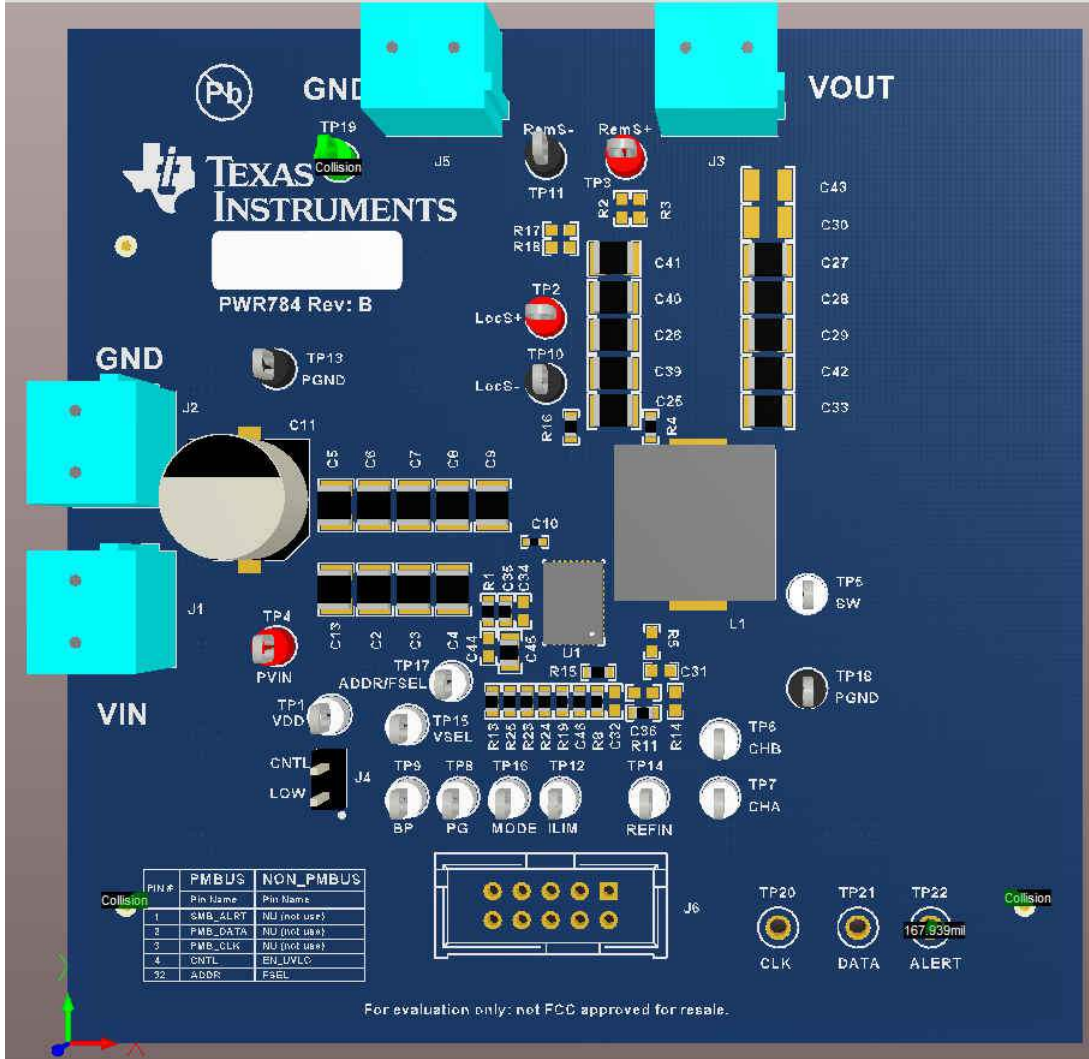

Figure 6-1. PWR-784EVM Overview
**Multimeters:** It is recommended to use two separate multimeters Figure 6-1. One meter is used to measure  $V_{IN}$  and one to measure  $V_{OUT}$ .
**Output Load:** A variable electronic load is recommended for testing Figure 6-1. It must be capable of 40 A at voltages as low as 0.6 V.
1. Connect VOUT to J3 and VOUT\_GND to J5 Figure 6-1.
4. Connect VIN to J1 and VIN\_GND to J2 Figure 6-1.